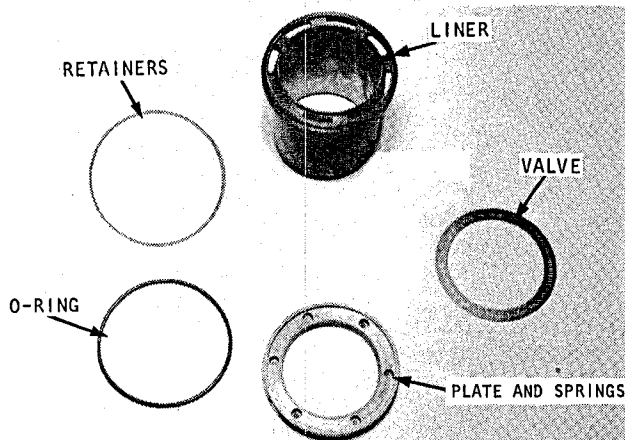

Figure 27
3. Lift liner away from the valve plate and remove suction valve and springs from the plate. Figure 27 illustrates the liner and suction valve components.